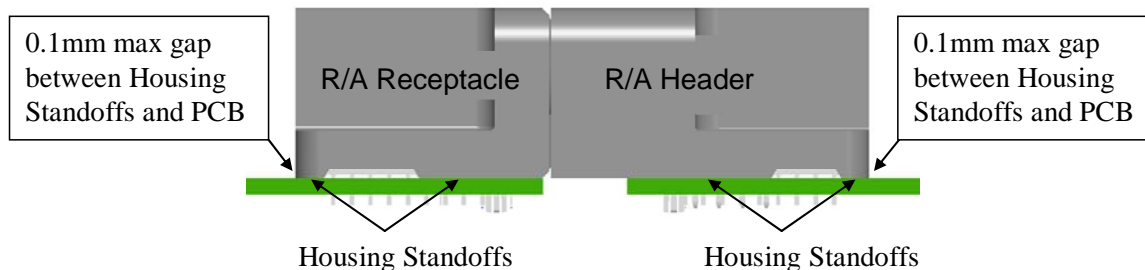

FIGURE 15
- Visually assure that the plastic standoffs on the bottom of the assembly are seated within 0.10 mm of flush to the PCB but not crushed (see Figure 15). A larger gap beneath the standoffs may indicate that the product is not seated parallel or perpendicular to the board. In the case of the header, this can cause misalignment with adjacent components.